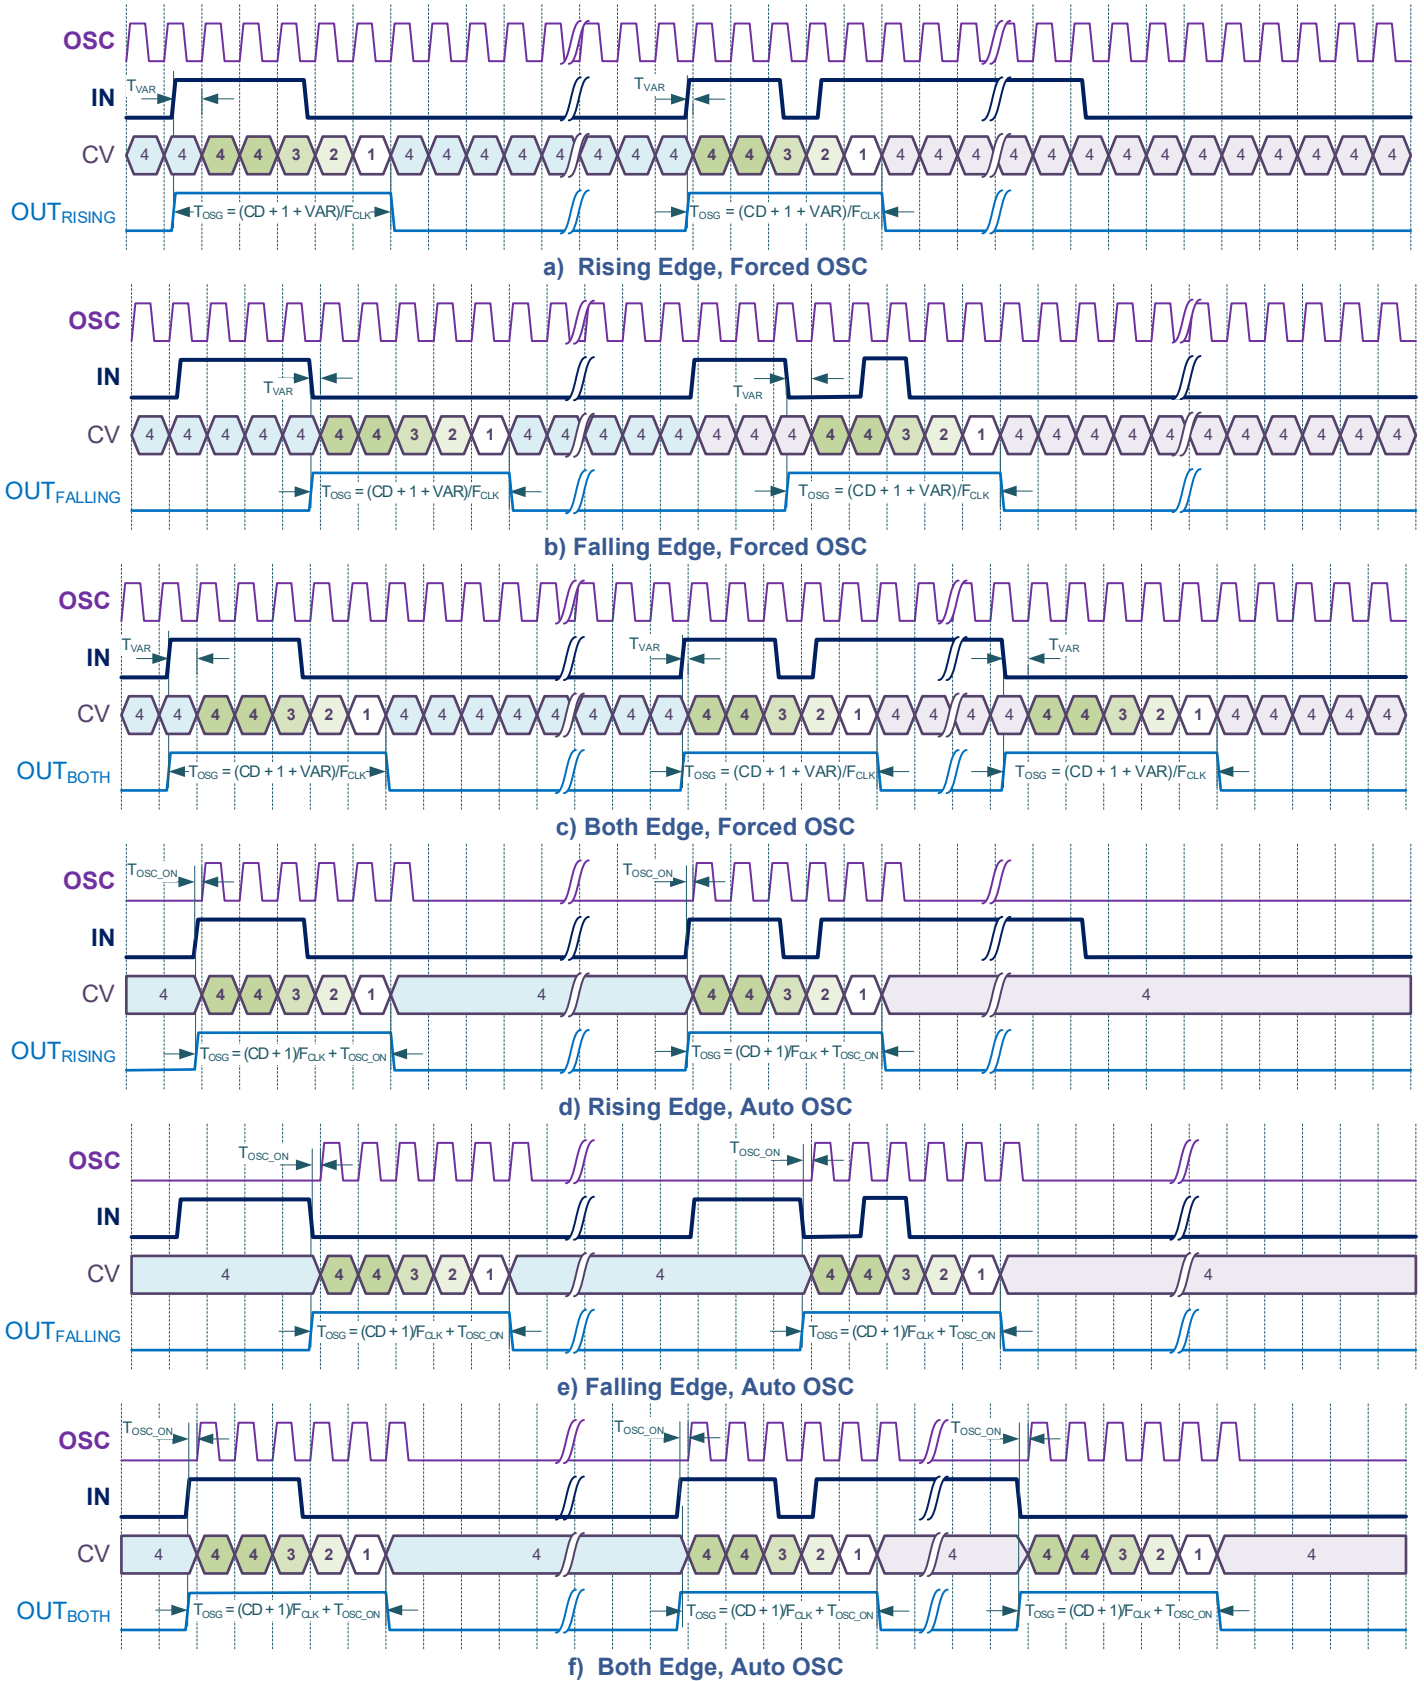

Figure 7.11. One-Shot Generator Mode (Control Data: 4)
In One-Shot mode this macrocell generates a high-level pulse with a set width, when detecting the edge event, which is selectable by the registers, on its IN input. The pulse width is determined by the Control Data, input clock signal and selected divider value. Any incoming edges are ignored during pulse width generation. The timing diagrams of this mode is shown in the Figure 7.11.
- One Shot (Figure 7.11)